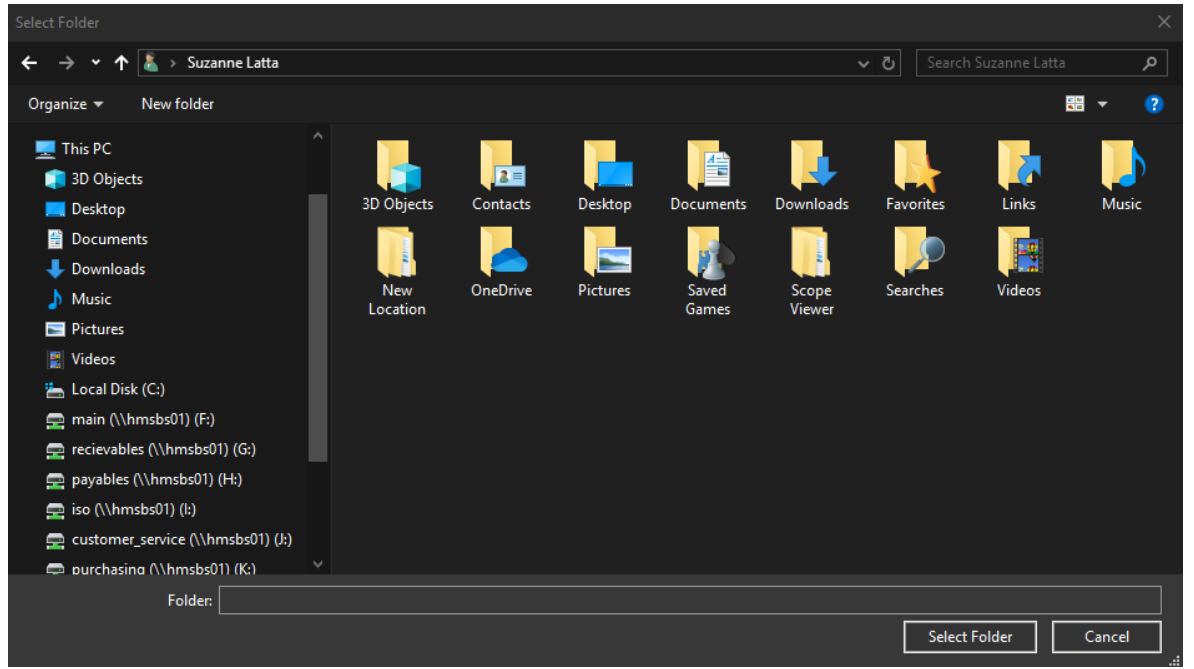

Figure 17
3. Click on 'Select Folder'. **Fig. 17**